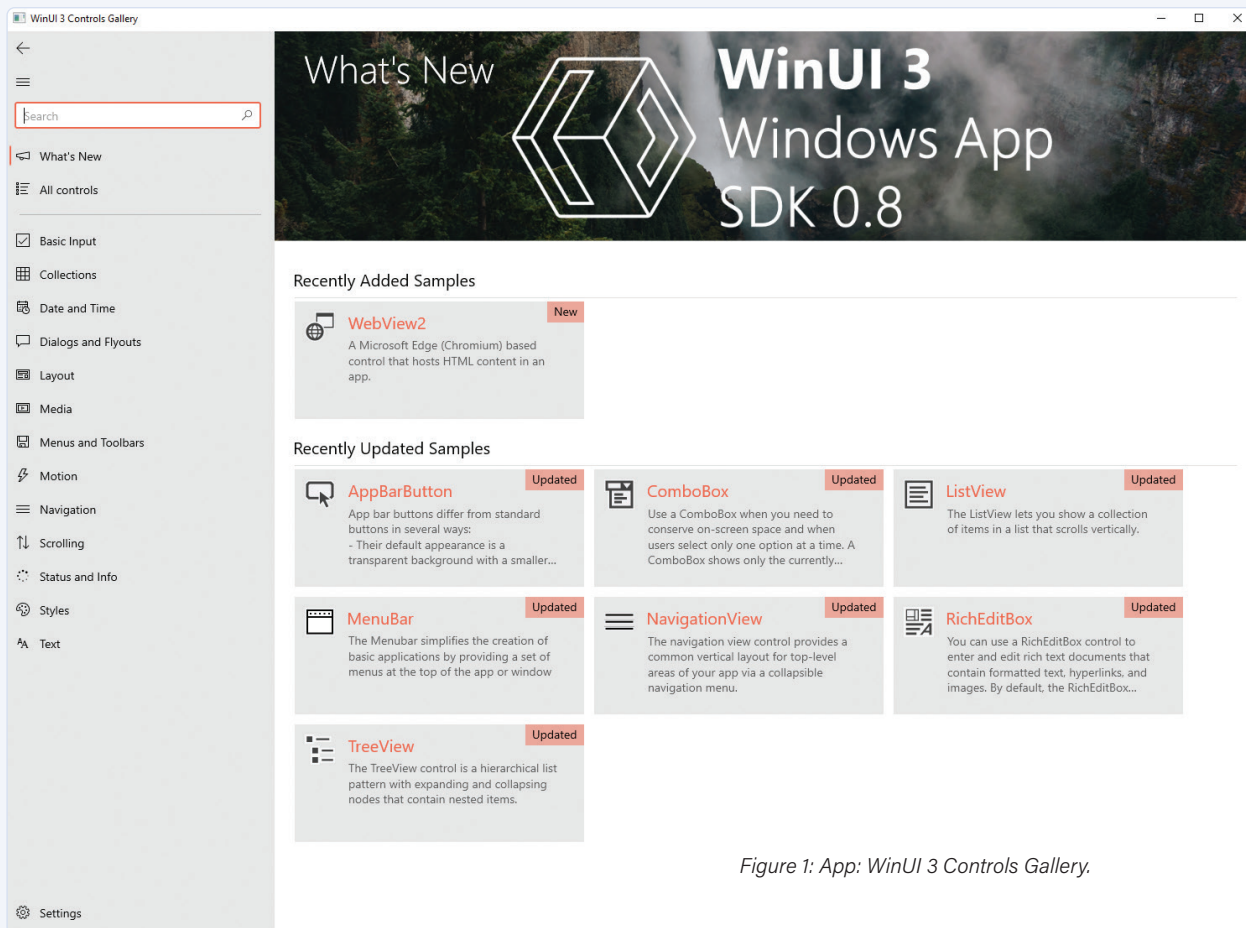

Figure 1: App: WinUI 3 Controls Gallery.
- **UI control elements:** A range of controls are available for designing the user interface. These include basic elements such as buttons and text entry fields, along with more complex and advanced elements such as a calendar control element, a WebView or an element for displaying personal data, which we can use, for example, for user administration. If you would like to explore the range of control elements further go to the Microsoft Store and download the *WinUI 3 Controls Gallery* app from there. This app gives a preview of the available controls for WinUI 3. Their use (Use Case) and their integration in the source code (XAML) are demonstrated. Corresponding links to the documentation can also be found (Figure 1).